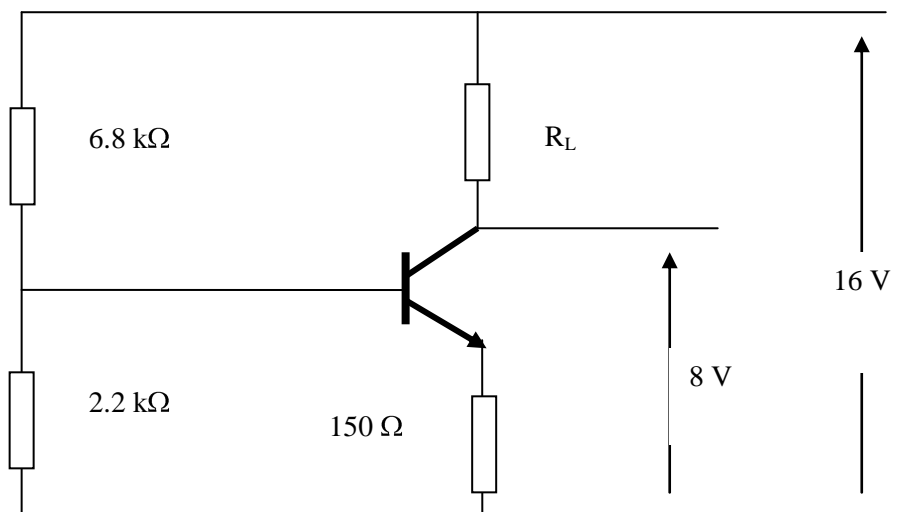

Fig Q3
- (a) the current in the non-linear resistor; (8)
- (b) the effective resistance of the non-linear resistor; (4)
- (c) the current in the $40\text{ k}\Omega$ resistor. (4)
3. Fig Q3 shows a single stage transistor amplifier. The voltage between base and emitter is 0.3 V and the d.c. voltage at the output terminals is 8 V .
- (i) the voltage between emitter and collector; (6)
- (ii) the power developed in the $150\ \Omega$ resistor; (5)
- (iii) the power dissipated in the transistor. (2)
- (b) Sketch the circuit diagram and show the additional components needed to make the amplifier suitable for amplifying small a.c. signals. (3)